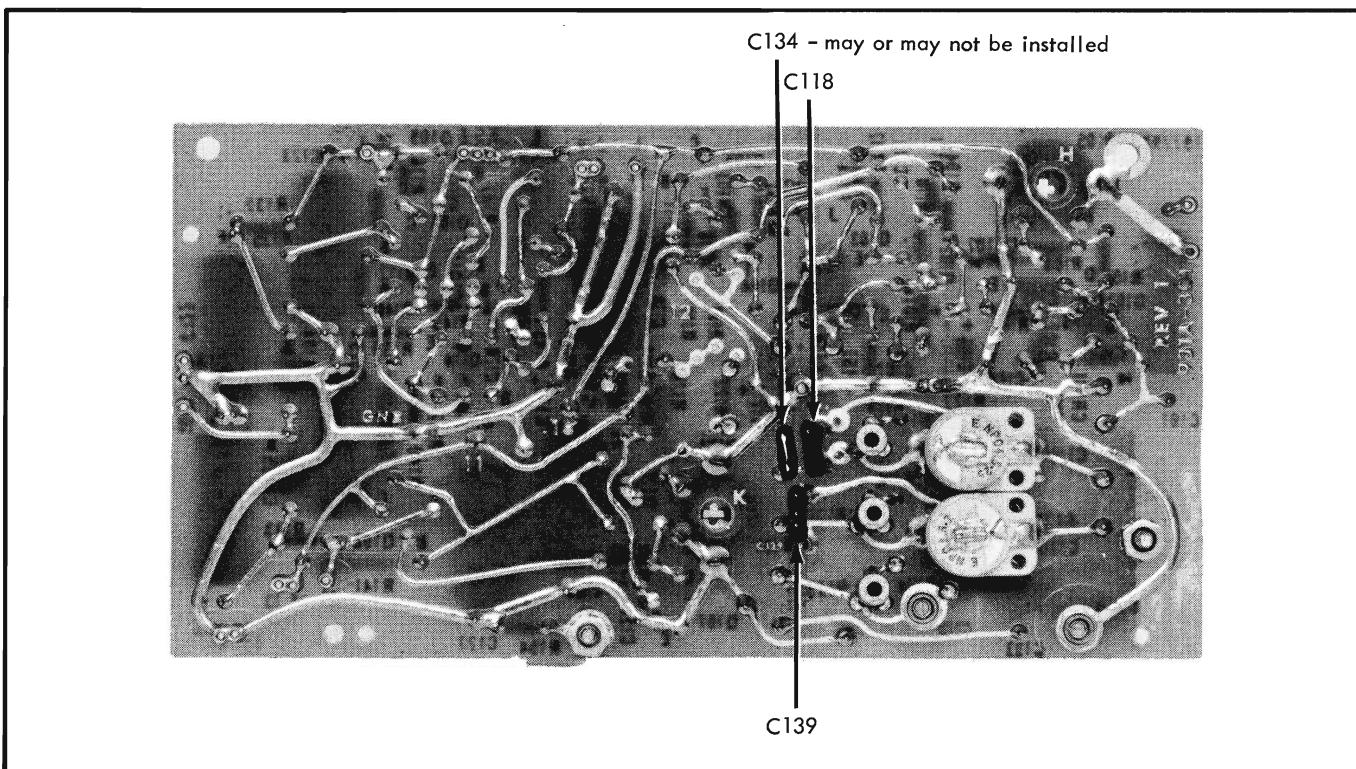

Figure 4-23. LOCATION OF COMPENSATING COMPONENTS
- a. Remove C118, C134, and C139 from the A3 assembly. Refer to Figure 4-23 for locations.
- i. Select a value, nominally 30 pf, for the padder capacitor C139 that will provide C121 with an adjustment range necessary to obtain the desired results of step h. Securely solder the selected capacitor C139 in its correct position illustrated in Figure 4-23.
- n. Place the MODE switch to NUL^L 10% and select a value, nominally 300 pf, for the padder capacitor C134 that will cause less than a $\pm .1$ meter deflection. Solder the selected capacitor C134 in its correct position illustrated in Figure 4-23.
- o. Place the MODE switch to NUL^L . 1% and select a value, nominally 30 pf, for C118 that will cause a center-zero meter deflection \pm five small divisions. Solder the selected capacitor in its correct position illustrated in Figure 4-23.